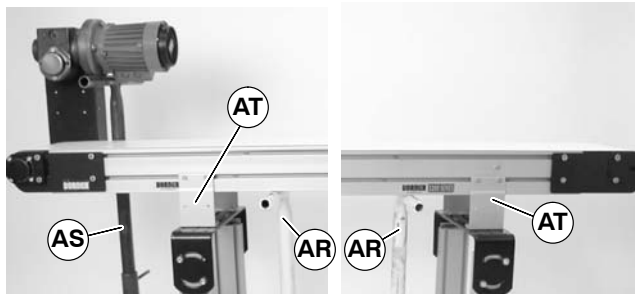

Figure 21
1. Place temporary support stands (AR of Figure 21) at both ends of the conveyor. Place an additional support stand under the drive motor (AS), if equipped. See **WARNING**.
2. Remove mounting brackets (AT of Figure 21) from one side of conveyor. (Reverse steps 3 & 4 of "Mounting Brackets" section on page 6).
1. Ensure temporary support stands (AR of Figure 21) are placed at both ends of the conveyor. Place an additional support stand under the drive motor (AS), if equipped. See **WARNING**.